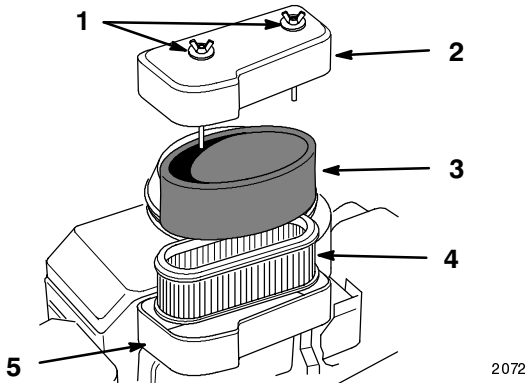

Figure 19
2. Clean around the air cleaner to prevent dirt from getting into the engine and causing damage. Unscrew the cover nuts and remove the air cleaner cover (Fig. 19).
3. Remove the air cleaner assembly (Fig. 19).
4. Carefully slide the foam element off the paper element (Fig. 19).
1. Carefully slide the foam element onto the paper air cleaner element (Fig. 19).
2. Place the air cleaner assembly onto the air cleaner base (Fig. 19).
3. Install the air cleaner cover and secure with cover nuts (Fig. 19).